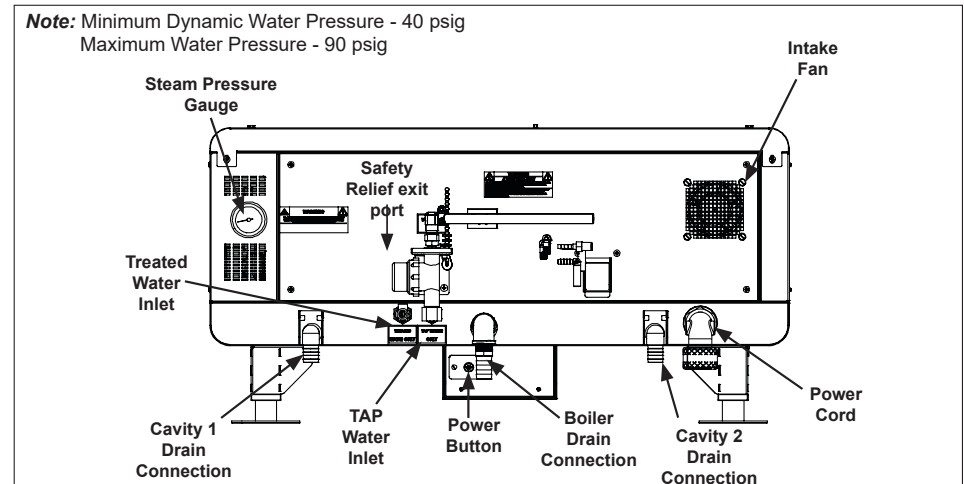

Figure 3. Steamer Connections and Items (Rear of Steamer)
1. Connect the cold water line to the water inlet according to Figure 3 on page 7.